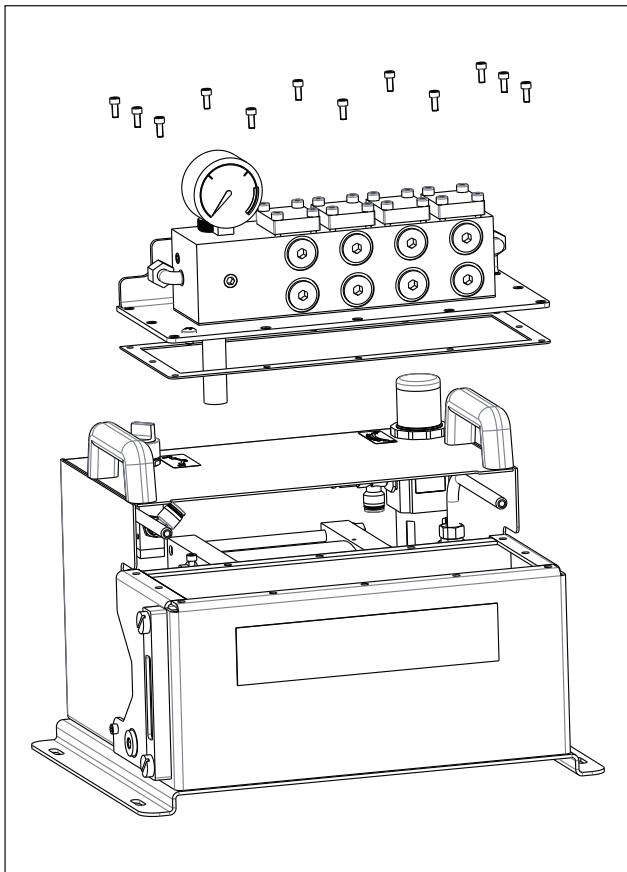

Figure 15 - Manifold Assembly
- Remove the bolts and sealing washers securing the hydraulic manifold and cover plate to the hydraulic reservoir. See Figure 15.
- Carefully lift the manifold and cover plate assembly straight up until it is removed from the hydraulic reservoir. See Figure 15. Set this assembly aside, in a clean and dry location.